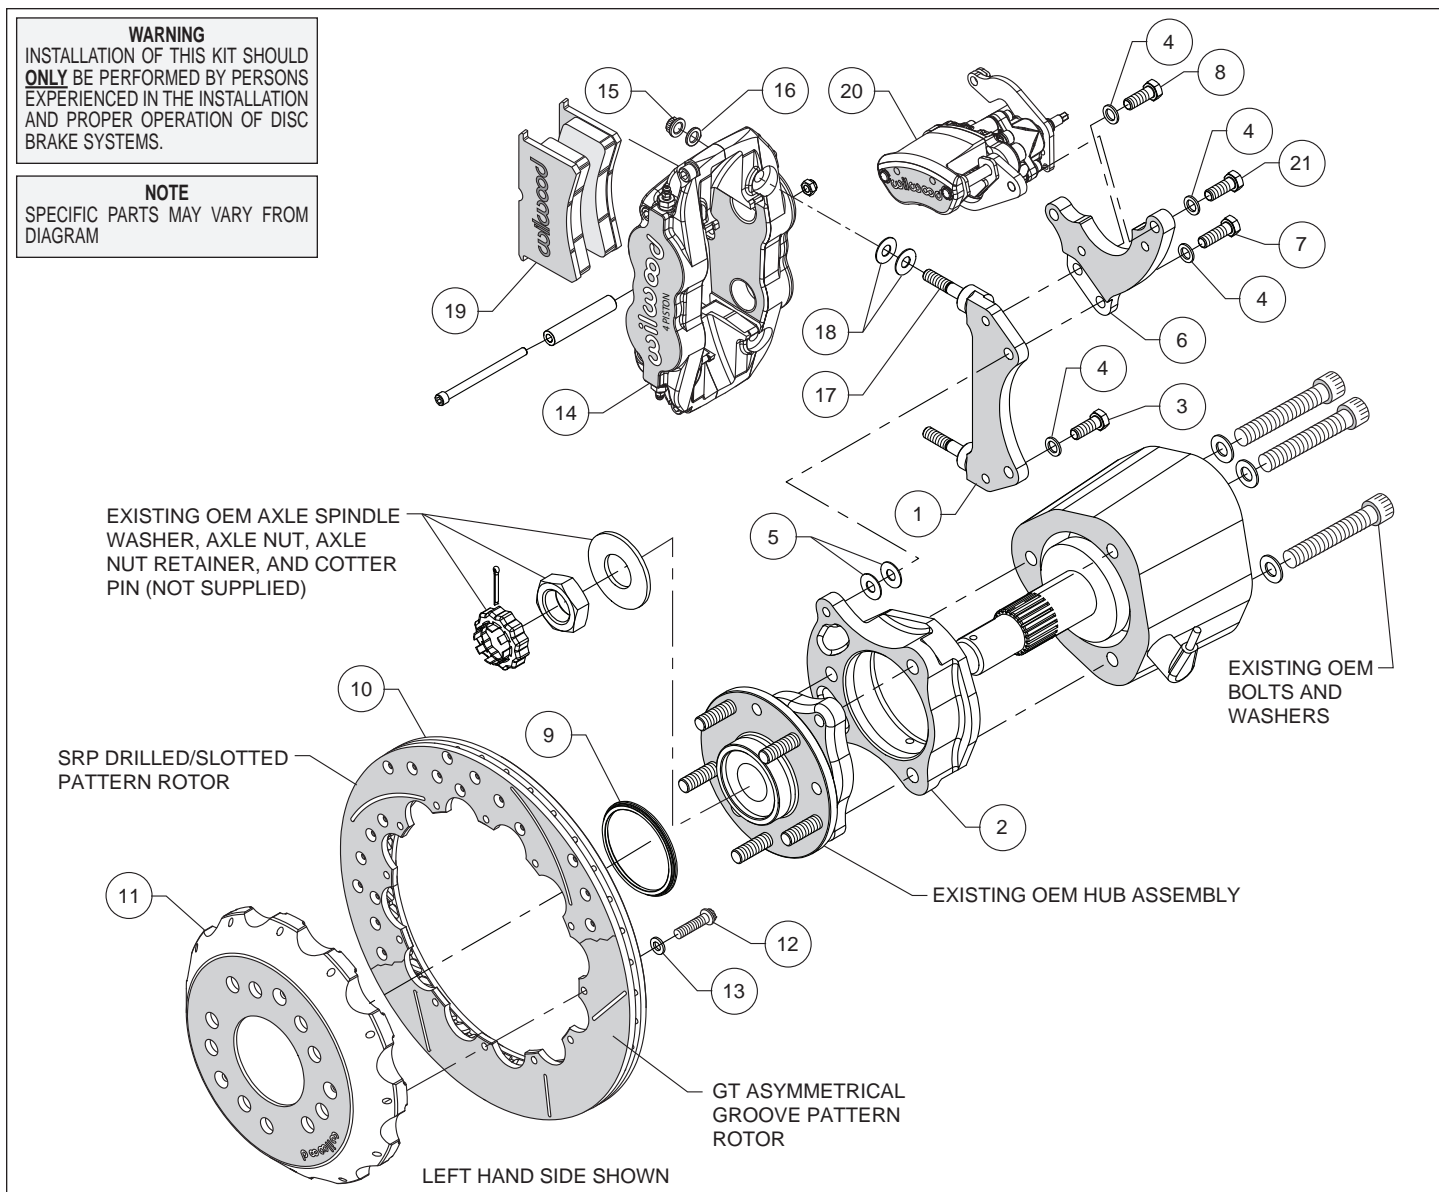
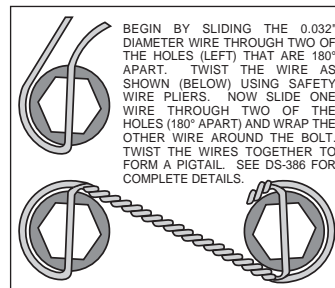

Figure 1. Typical Installation Configuration
Figure 3. Safety Wire Diagram
Assembly Instructions (numbers in parenthesis refer to the parts list and Figure 1 on the preceding pages):
- The caliper and parking brake mount brackets should initially be installed with clean, dry threads on the mounting bolts. Orient the parking brake bracket (6) and caliper bracket as shown in Figure 1 and Photo 1. Attach parking brake bracket using top bolt (8) and washer (4) (arrow). Do not tighten.
- Attach the radial mount caliper bracket (1) to the axle hub bracket (2) using bolts (3 and 7) and washers (4) as shown in Figure 1 and Photo 1. Initially place two .035" thick shims (5) on bolts (3 and 7) between the radial bracket and axle hub bracket, Figure 1. Temporarily tighten all three bolts. Later, after the caliper alignment has been checked, the mount bolts will be secured using red *Loctite*® 271.
- Orient the caliper bracket assembly (1, 2 and 6) as shown in Figure 1 and Photo 2. **NOTE:** The bracket assembly must fit squarely against the face of the upright. Inspect for interference from casting irregularities, machining ridges, burrs, etc.
- Slide the rotor registration adapter (9) onto the axle register on the hub assembly with the smaller O.D. facing outward, Photo 4.
- Orient the rotor (10) and the hat (11) as shown in Figure 1 and Photo 5. Attach rotor to hat using bolts (12) and washers (13). Using an alternating sequence, apply red *Loctite*® 271 to the threads, and torque to 155 in-lbs. For an added measure of security, the bolts may be safety wired using standard 0.032 inch diameter stainless steel safety wire as shown in Figure 3. Please refer to Wilwood's data sheet DS-386 (available at www.wilwood.com/Pdf/DataSheets/ds386.pdf) for complete safety wire installation instructions.
in Figure 1 and Photo 7. Mount the caliper (14) onto the bracket (1) using lock nuts (15) and washers (16), Figure 1. Temporarily tighten the lock nuts and view the rotor through the top opening of the caliper. The rotor should be centered in the caliper, Photo 8. If not, adjust by adding or subtracting shims (5) between the radial bracket (1) and the axle hub bracket (2). Always use the same amount of shims on each of the two mounting bolts. Once the caliper alignment is correct, remove the radial/MC4 bracket mounting bolts (3, 7 and 8) one at a time, apply red *Loctite*® 271 to the threads, and torque bolts to 35 ft-lb.
- Mount the parking brake caliper (20) onto the top section of the caliper bracket assembly (1 and 6) using bolts (21) and washers (4), as shown in Figure 1 and Photo 12. Apply red *Loctite*® 271 to bolt threads, and torque to 30 ft-lb.